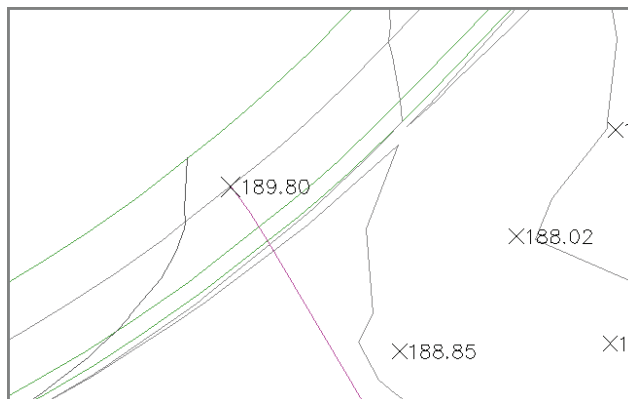

FIGURE 4.18 Spot elevation label showing 189.80' (57.85 m) added where the new road meets the existing road
5. Click `Add`. Snap to the northern endpoint of the magenta centerline. A label is placed at the location you selected (see Figure 4.18).